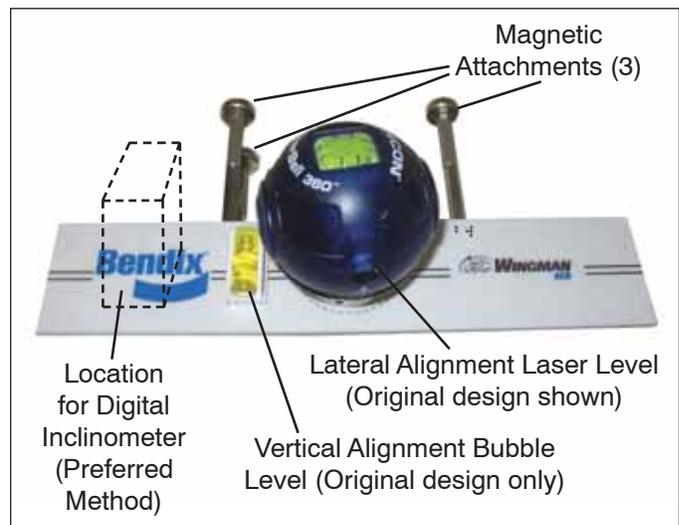

FIGURE 26 - BENDIX® ALIGNMENT TOOL (K041451 OR K041227)
6.07.6 If you have the original design of alignment tool K041451 or K041227 (See Figure 26):